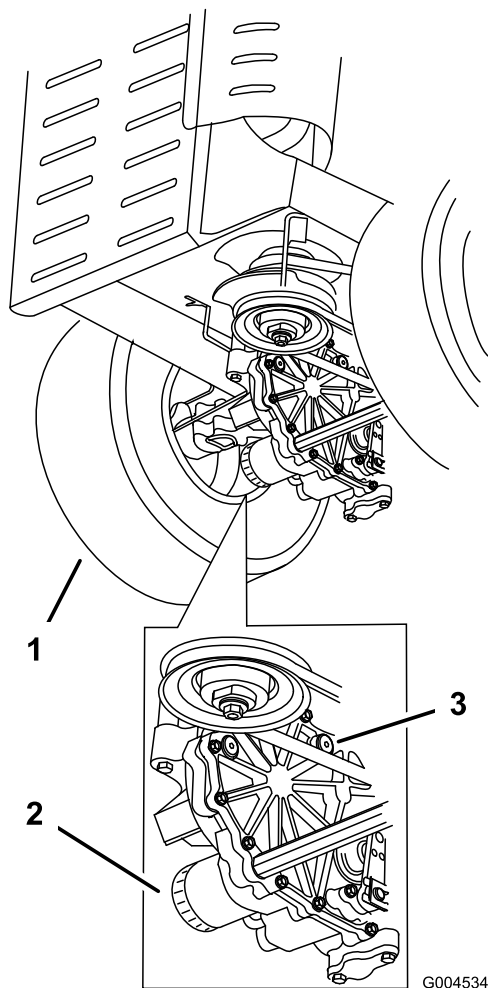

Figure 52
4. Carefully clean the area around the filters. It is important that no dirt or contamination enter the hydraulic system (Figure 52).
5. Unscrew the filters and allow the oil to drain from the drive system (Figure 52).